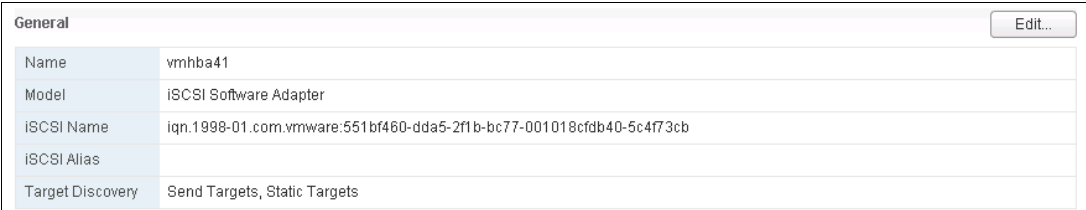

Figure 5-32 Enabled VMware iSCSI initiator
16.The VMware ESX iSCSI initiator is successfully enabled (Figure 5-32). Document the initiator name for later use.